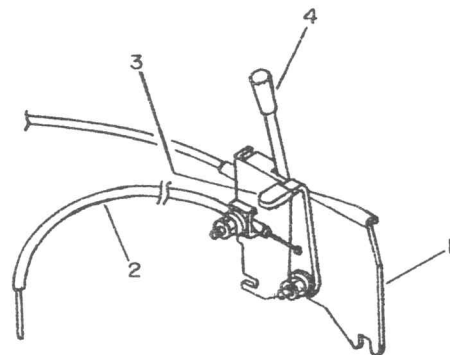
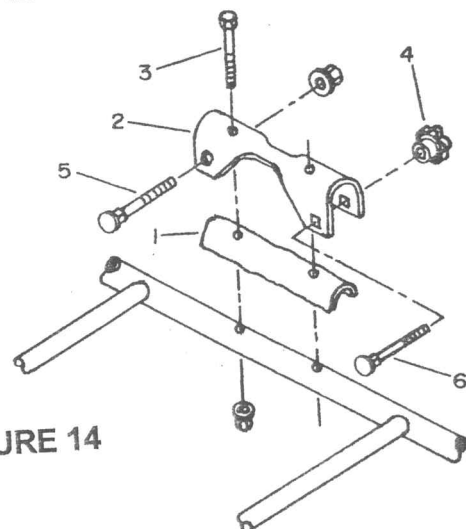

FIGURE 13
FIGURE 14
- i) Install the throttle cable (fig. 13, item 2) to engine carburator throttle lever. Adjust the cable when the carburator lever is in the middle position, the hand lever (item 4) will be perpendicular or in middle position.
- j) Install the clutch arm fixture at the right hand side of the A.T.V. on front rack. Identify where is the best place. Be sure that the driver has easy access to the control. Wrap the rubber piece (fig. 14, item 1) on the tube. Install the clutch fixture (item 2) on the tube over the rubber piece, the round holes toward the front. Fasten in front with a 5/16 X 1 3/4" carriage bolt (item 5), the head toward inside and secure with nut. Tighten lightly. The distance between the bolt head and the fixture is normal and is designed to have the slot support attached. Install a 5/16 X 1 3/4" carriage bolt (item 6) on the rear square hole, the head toward the inside and secure with knob (item 4). The support should be exactly 90° with the ground. Using the top holes as a template, drill through the tube and secure with 1/4 X 1 1/4" bolts and nuts. Install the clutch arm support (fig. 13, item 1) by loosening the knob (fig. 14, item 4) and slide the front slot of arm support (fig. 13, item 1) between the bolt head (fig. 14, item 5) and the fixture (item 2). The rear
slot "B" on the arm support (fig. 13, item 1), must slide between the bolt head (fig. 14, item 5) and the fixture (item 2). Secure with knob (item 4).